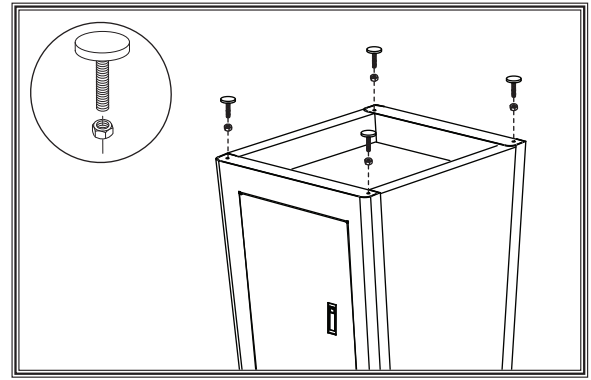

Figure 8. Foot installation.
4. Invert the cabinet, thread the (4) hex nuts onto the feet, and install the feet into the base, as shown in **Figure 8**.